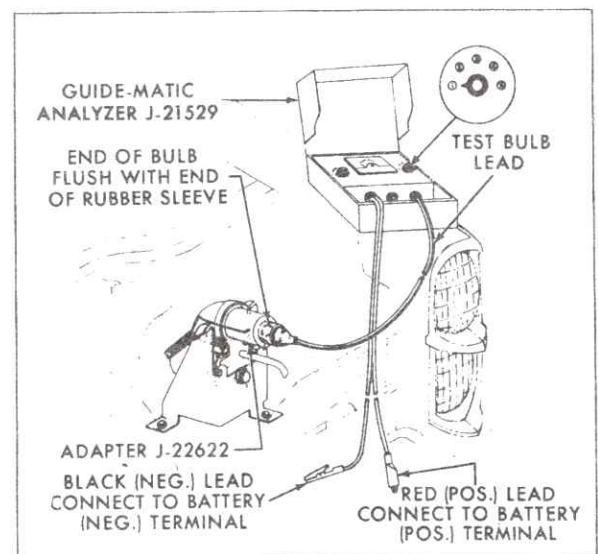

Fig. 15-36 Dim and Hold Sensitivity Test
b. Install analyzer test bulb assembly into smaller diameter hole in rear of adapter head. Push bulb and rubber sleeve forward until they stop against inner bulkhead wall of adapter head, Fig. 15-36.
c. Install and connect analyzer as shown in Fig. 15-36. Be sure adapter is seated snug around lens and bail is snapped tightly into position. On the 693 style it will be necessary to remove two screws securing photo-amplifier shield, mount adapter and install shield. Do not disconnect electrical connectors.